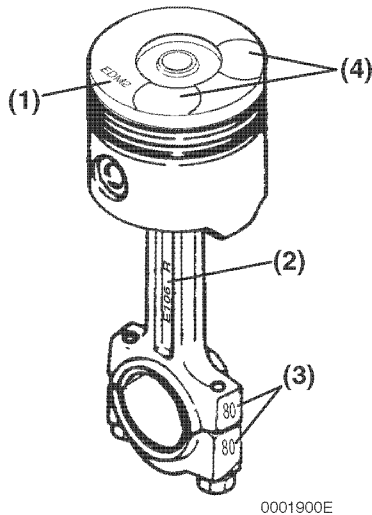

Figure 6-88
The piston and connecting rod must be assembled with the correct orientation. When correctly assembled, the identification mark (**Figure 6-88, (1)**) stamped into the top of the piston will be facing the same direction as the embossed mark (**Figure 6-88, (2)**) cast into the beam of connecting rod and the valve reliefs (**Figure 6-88, (4)**) in the top of the piston will be facing in the same direction as the matching marks (**Figure 6-88, (3)**) on the connecting rod and connecting rod cap.
Note: The actual appearance of the match marks will vary but they will always be in the same locations (**Figure 6-88**).